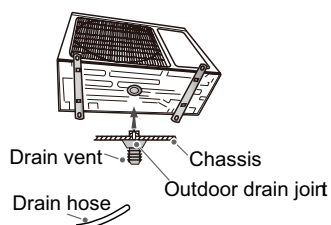

Fig.19
- (1) Connect the outdoor drain joint into the hole on the chassis.
- (2) Connect the drain hose into the drain vent.(As show in Fig.19)